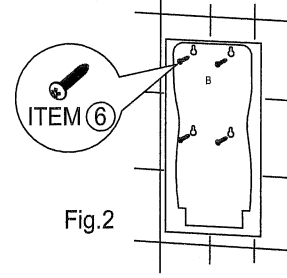

Fig.2
3. Insert four screws into anchors, and partially screw in. (Fig. 2) Remove the template.